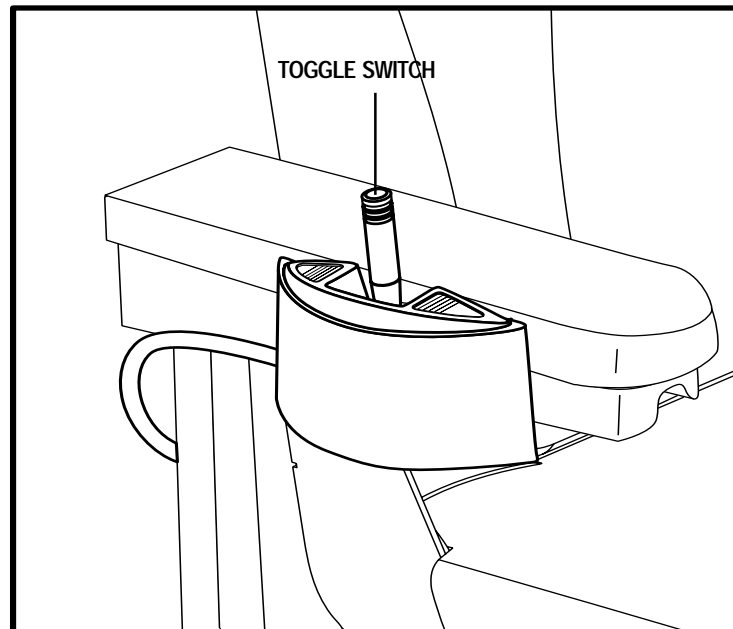

Figure 23. Toggle Switch
1. Push the toggle switch forward to raise the seat. See figure 23. When you release the toggle, the seat will stop.